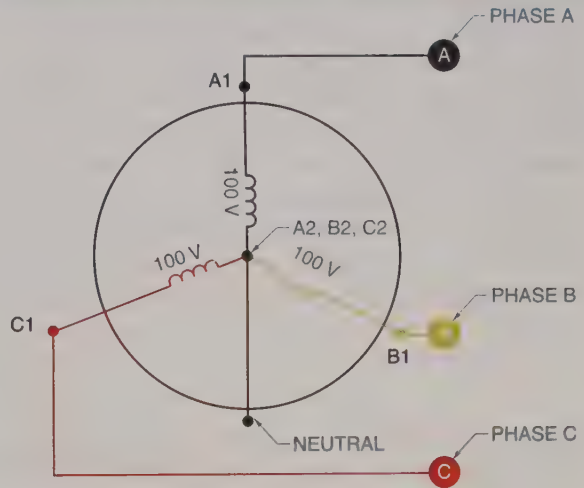

Figure 10-6. A common neutral wire can safely connect the internal leads of a wye-connected alternator to form a common return for lighting loads.
Wye (Y) Connections. A wye (Y) connection is a connection that has one end of each coil connected together and the other end of each coil left open for external connections. This circuit can be simplified by connecting the A2, B2, and C2 phase ends together. See Figure 10-6.